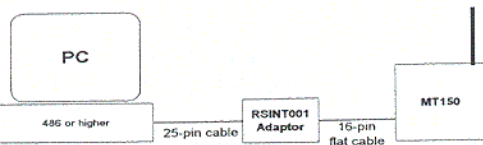

Figure 3: MT150™ - PC Connection Configuration
Connect MT150™ to a PC using an RSINT001 adaptor (see Figure 3).
1. Connect MT150™ to a PC using the RSINT001 adaptor, see Figure 3.